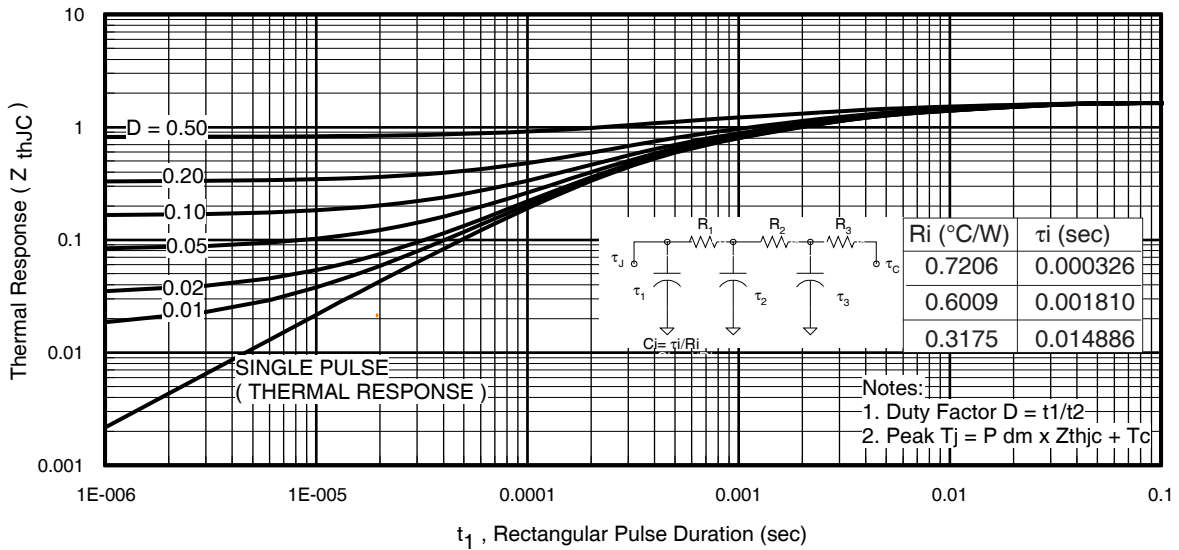

Fig 11. Maximum Effective Transient Thermal Impedance, Junction-to-Case
$Z_{thJC}(D, t_{av})$ = Transient thermal resistance, see figure 11)
- ① Repetitive rating; pulse width limited by max. junction temperature. (See fig. 11).
- ② Limited by T_{Jmax} , starting $T_J = 25^\circ C$, $L = 0.11mH$, $R_G = 25\Omega$, $I_{AS} = 37A$, $V_{GS} = 10V$. Part not recommended for use above this value.
- ③ Pulse width $\leq 1.0ms$; duty cycle $\leq 2\%$.
- ④ C_{OSS} eff. is a fixed capacitance that gives the same charging time as C_{OSS} while V_{DS} is rising from 0 to 80% V_{DSS} .